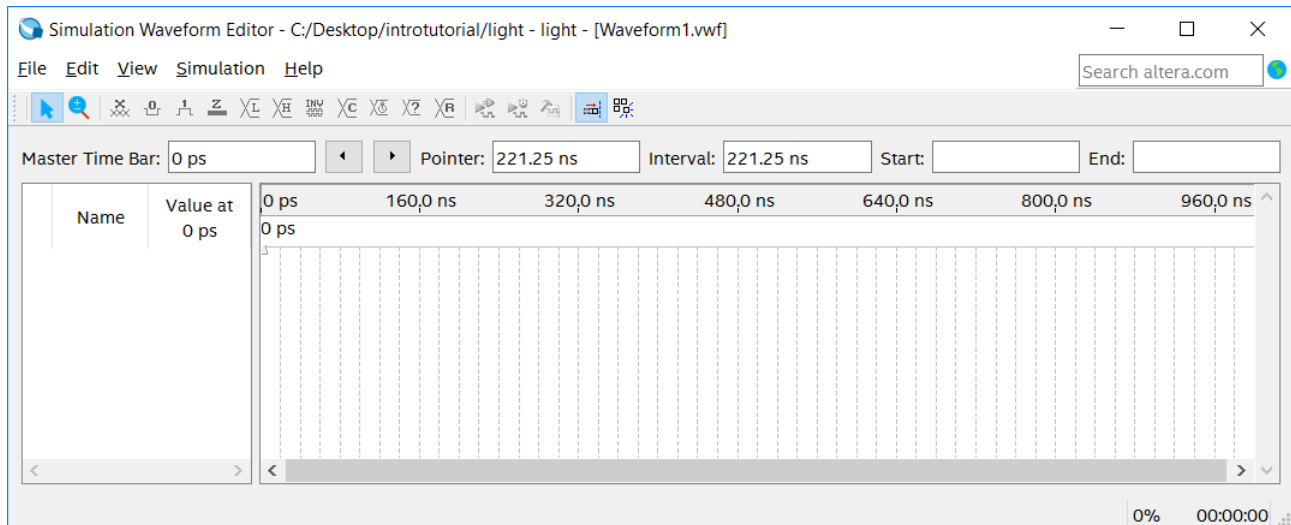

Figure 33. The Waveform Editor window.
2. The Simulation Waveform Editor window is depicted in Figure 33. Save the file under the name *light.vwf*, and then refresh the project settings by clicking **Simulation > Simulation Settings > Restore Defaults**. Set the desired simulation to run from 0 to 200 ns by selecting **Edit > Set End Time** and entering 200 ns in the